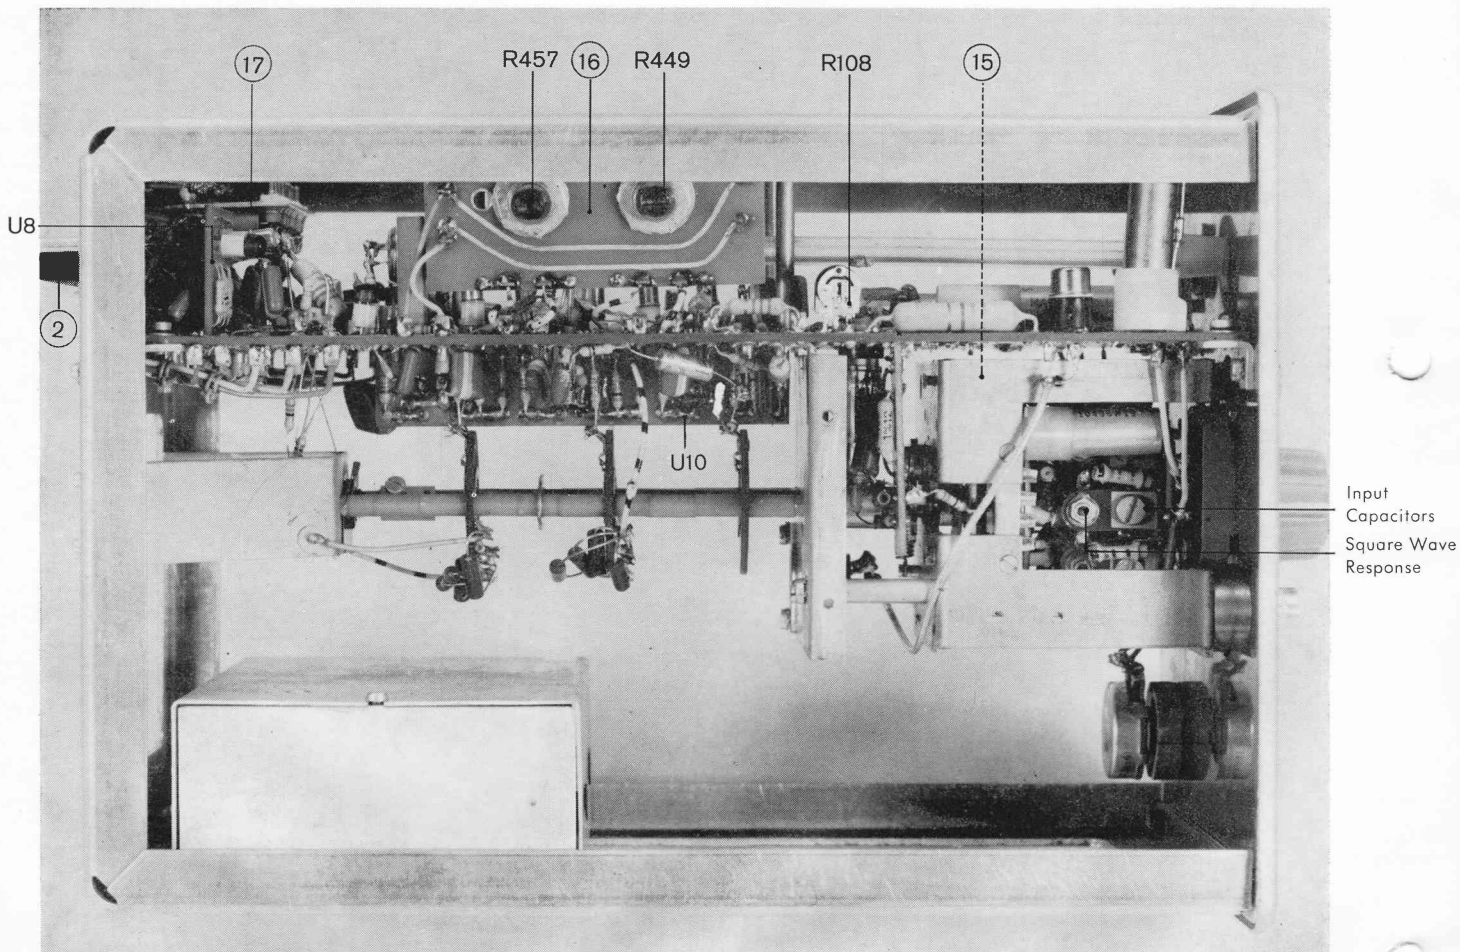

Fig. 14. Left-hand view
B. GRID-CURRENT COMPENSATION R108 (Fig. 14)
Item 16 of fig. 14
For the adjustment of the attenuator, in every position of “V/cm” (SK4), the corresponding trimmers are accessible via holes in the screening plate (see Fig. 14).